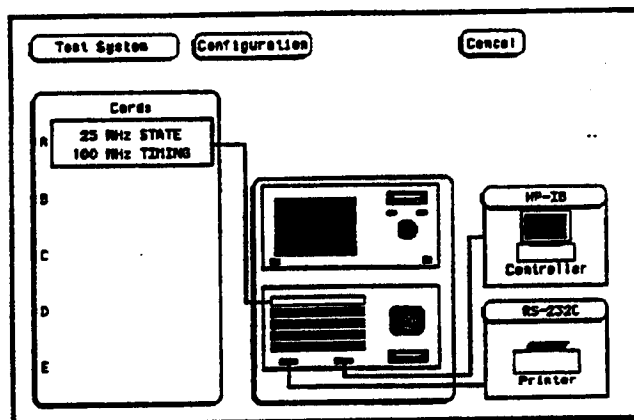

Figure 6-4. Test System Screen
- d. From test screen in figure 6-4, touch Test System, then touch State/Timing. (If multiple state/timing modules, select the one to be tested)